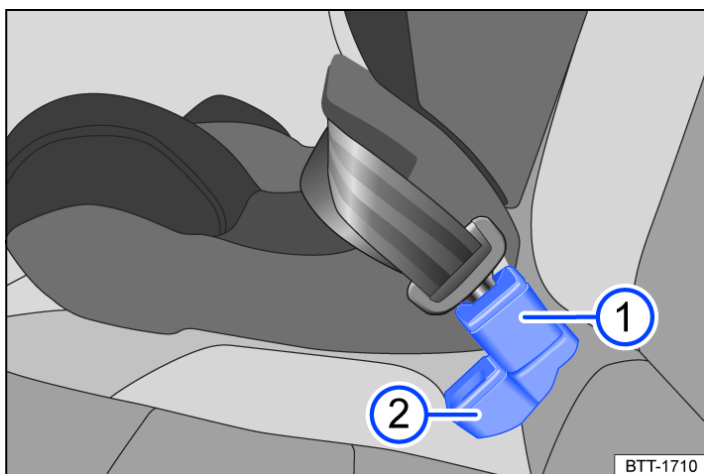

Fig. 1 Position of seat belt buckles on the rear bench seat
- Push the buckle for the middle seat → Fig. 1 ① behind the buckle for the outside seat → Fig. 1 ②.
- Insert the latch plate of the seat belt of the middle seat into the buckle for the middle seat → Fig. 1 ① and push it down until it audibly engages.